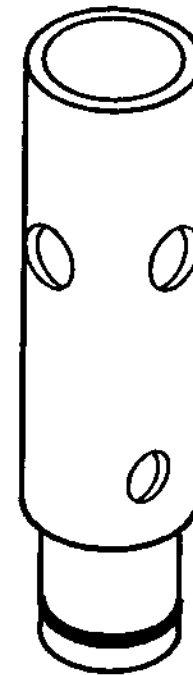

Fig. 8
1. Remove the restrictor tubes (Fig. 8) from the mix inlet holes and lay in the bottom of the mix pans. Note: Some units have these tubes welded in place